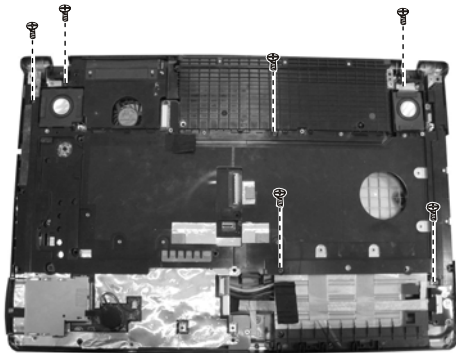

Figure 2-21 Remove the shielding
2. Remove six screws fastening the shielding. Then remove the shielding. (Figure 2-21)